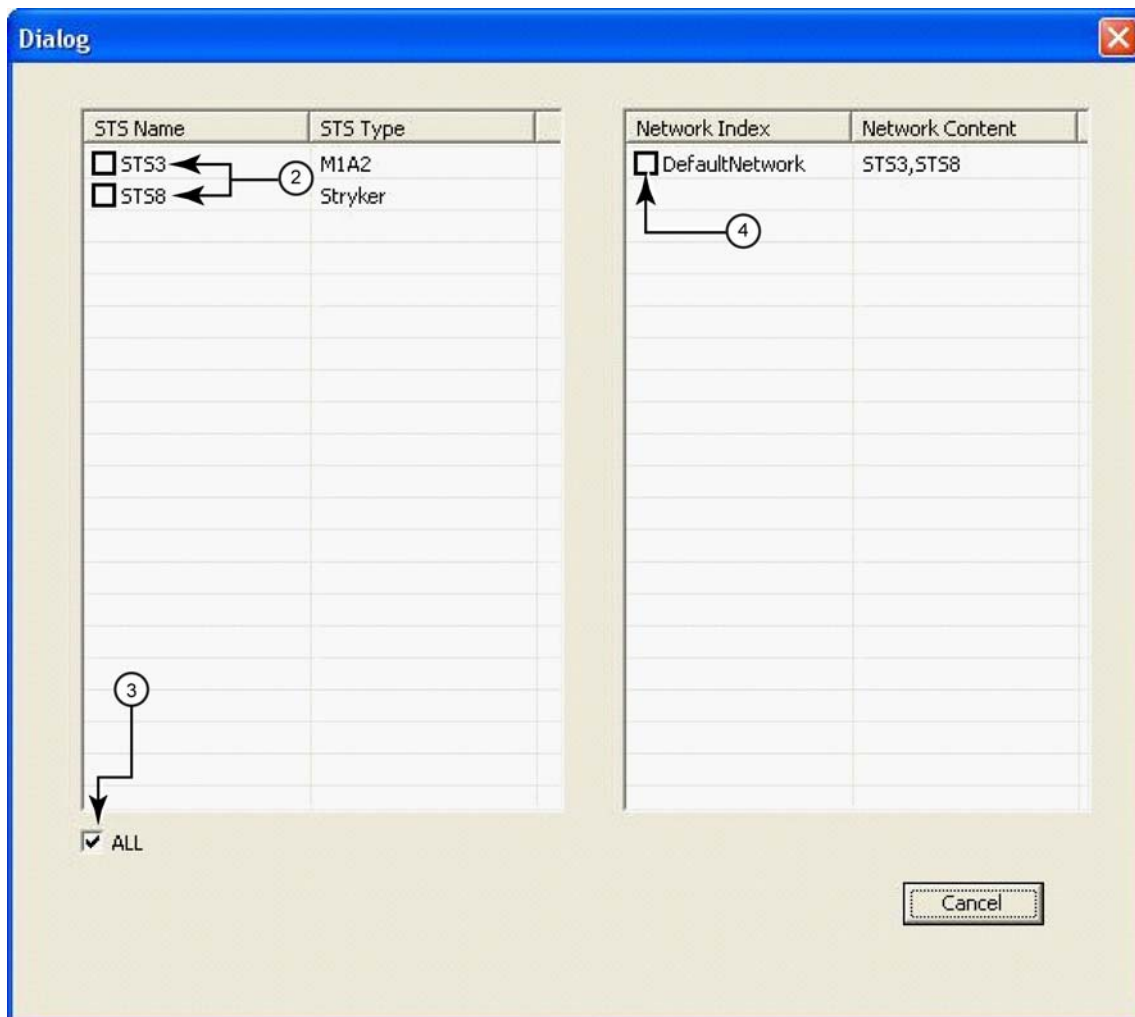

Figure 123. Radio Dialog Screen
2. On the Radio Dialog screen, click one or more checkboxes in the STS Name column to activate the radio for the desired STS(s) (Figure 123).